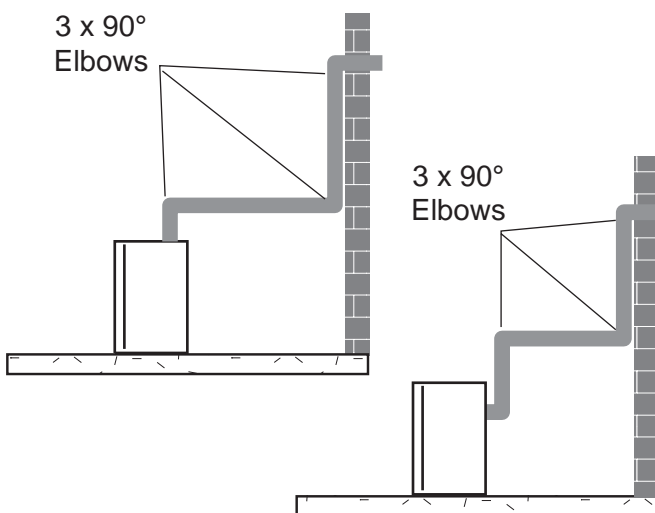
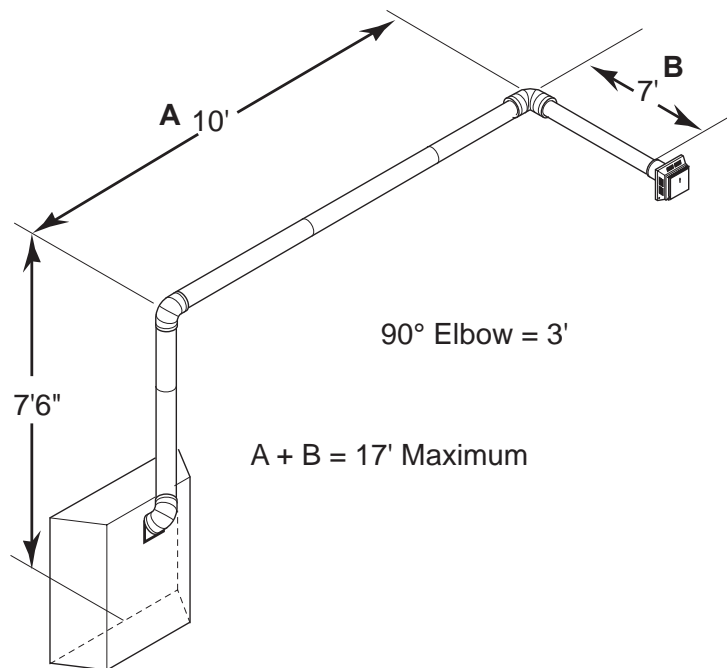

Figure 21 - Maximum Three (3) 90° Elbows Per Installation
Figure 24 - Maximum Vent Run with Elbows
- The maximum number of 90° elbows per side wall installation is three (3). See Figure 21.
- If a 90° elbow is used in the horizontal vent run (level height maintained) the horizontal vent length is reduced by 36". See Figures 21 and 22, page 20. This does not apply if the 90° elbows are used to increase or redirect a vertical rise. See Figure 24.